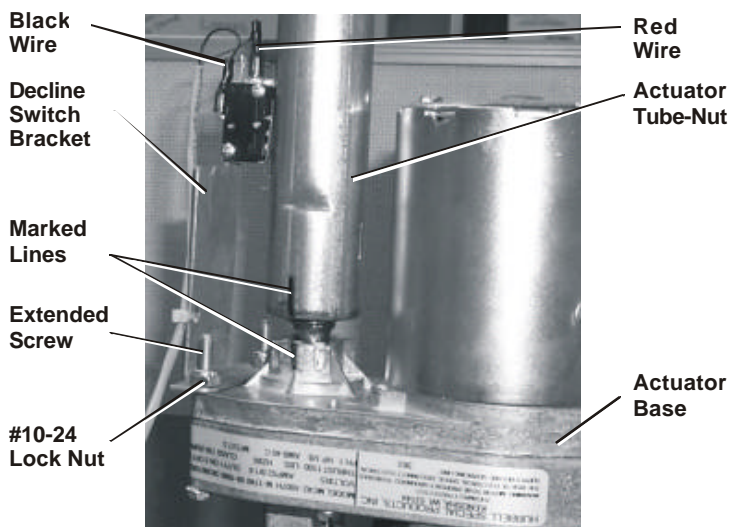

Figure 2
7. With a marker make two coincident lines; one on the ACTUATOR BASE and another on THE ACTUATOR TUBE-NUT (see Figure 2).
14. Attach the two short leads of the DECLINE CABLE to the HOME SWITCH LUGS (black wire to the side lug, "COM", and red wire to the top lug, "NO")(as shown in Figure 2).